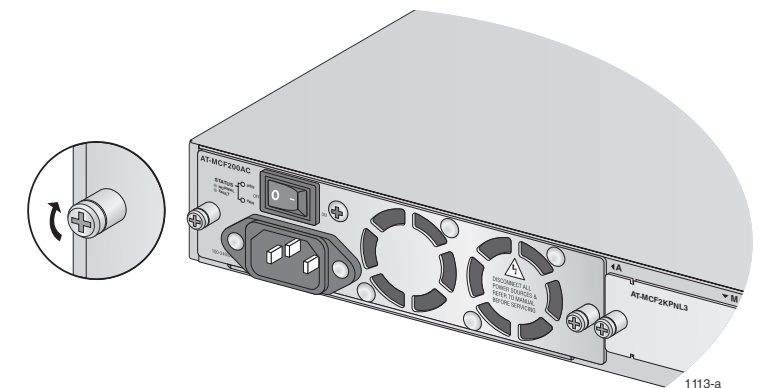

Figure 4. Securing the Power Supply Module
4. Secure the power supply module to the chassis by tightening the two captive screws using a cross-head screwdriver. Refer to Figure 4.